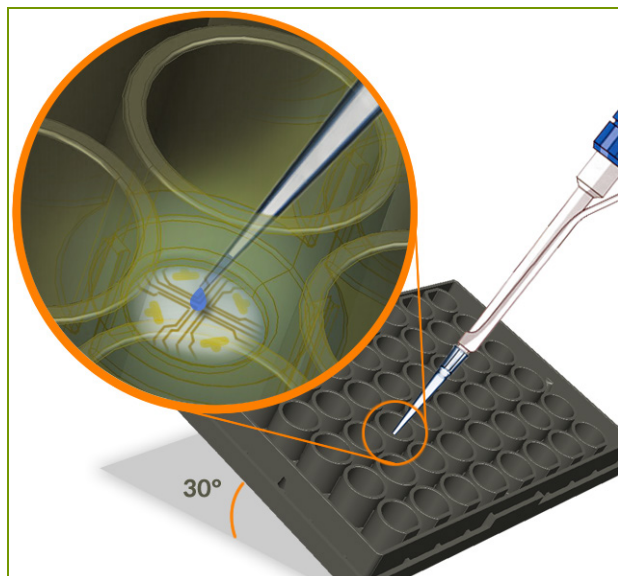

Figure 1: Example Droplet Placement
1. Thoroughly mix the cell suspension by gently inverting the tube 2 - 3 times. Tilt the 48-well MEA plate at an angle so that the bottom of all wells are visible. Immediately dispense a 4 μ l/well droplet of the cell suspension directly over the recording electrode area of the well of the 48-well MEA pre-coated with PEI solution (Figure 1).